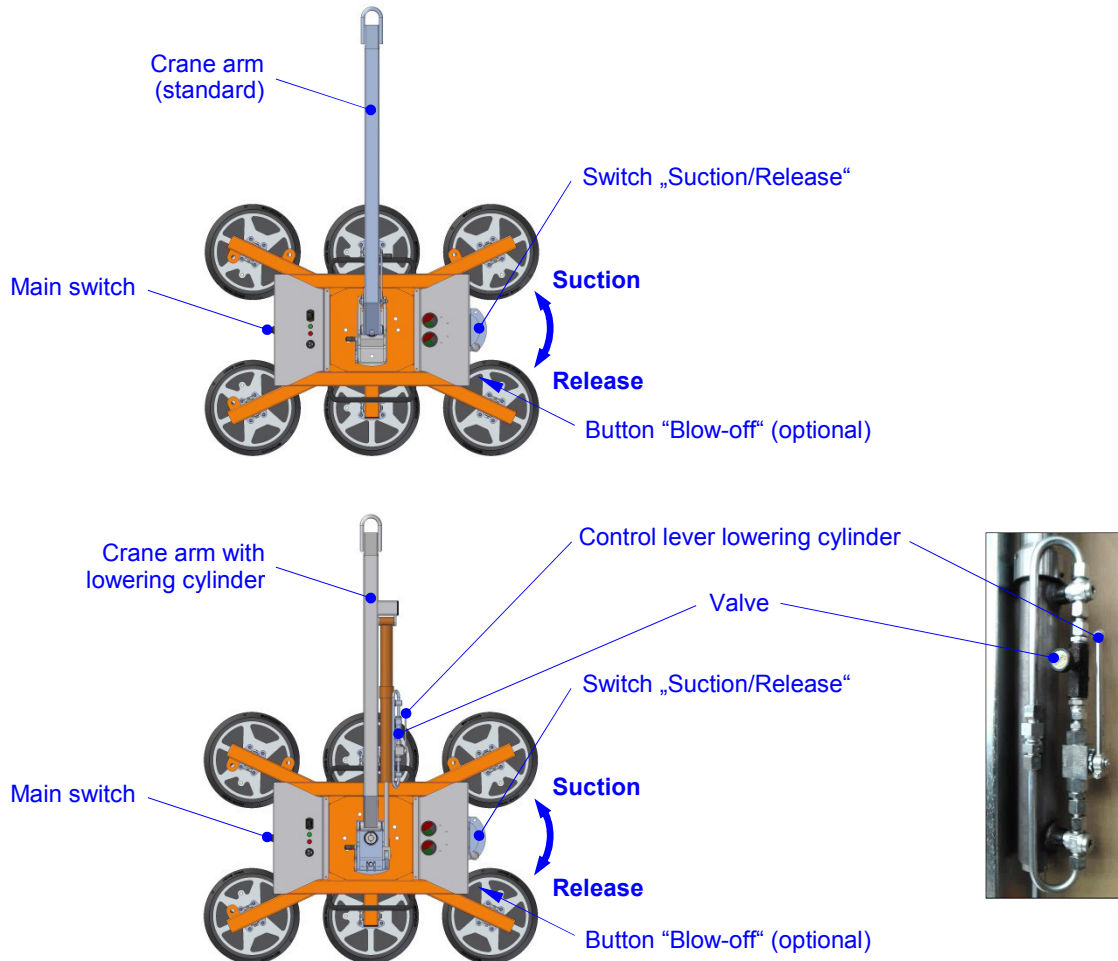
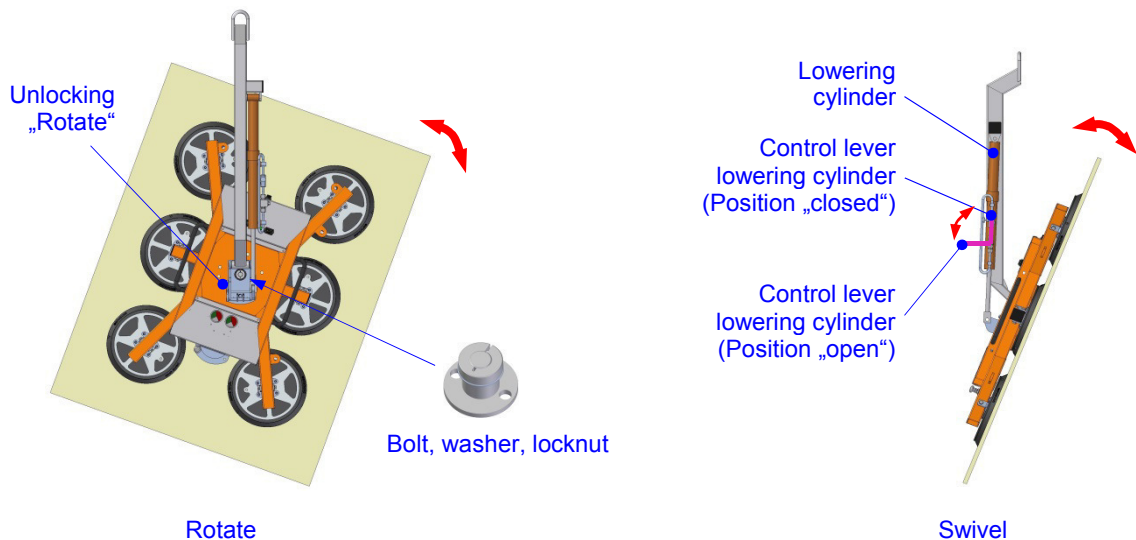

Fig. 7: Control panel
Fig. 9: Rotating and swiveling a load (crane arm with lowering cylinder)
The OKTOPUS® GLASS-Jack GL-KN 1000 is operated on the device according to fig. 7.
- ⇒ Slightly lift the switch „Suction/Release“ (see fig. 7) and shift it towards “Suction” until it is completely engaged.
In order to avoid unintended rotating of the load, you have to ensure that the release lever “Rotate” (see fig. 9) is completely locked in place during swiveling movements!
- ⇒ Put the control lever of the lowering cylinder into position “open” (see fig. 9). Guide the load until it has reached the required inclination. Turn the control lever into position „closed“. The swiveling movement stops immediately. With the help of the valve (see fig. 7) you can adjust the swiveling speed (turn right for faster, turn left for slower).